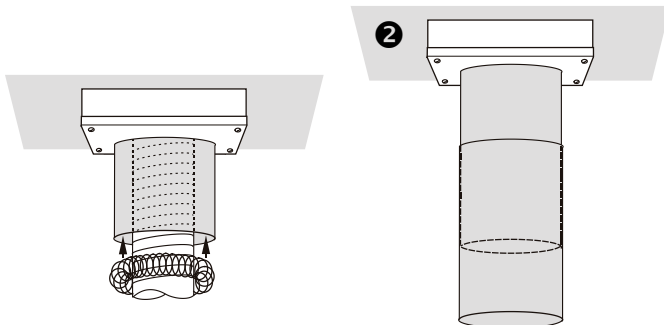

Figure 18. 1 Installing spacer springs. 2 Installing the slip section.
7. Attach the top vent conversion box (Part # FST04) to the stove's flue collar as shown in Figure 18. Secure it with four sheet metal screws.